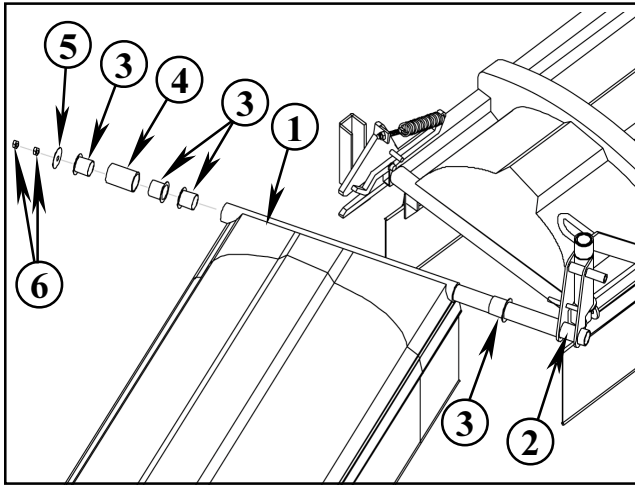

FIG. 5
3. Lightly grease Right and Left Boom horizontal pivots where bushings will rotate. Assemble Right and Left Booms onto Boom Center Section / Horizontal Pivot Joint as per FIG. 5 ensuring that bushings are properly seated. Torque the wing retainer jam nut to 15 ft. lbs and lock with second jam nut.